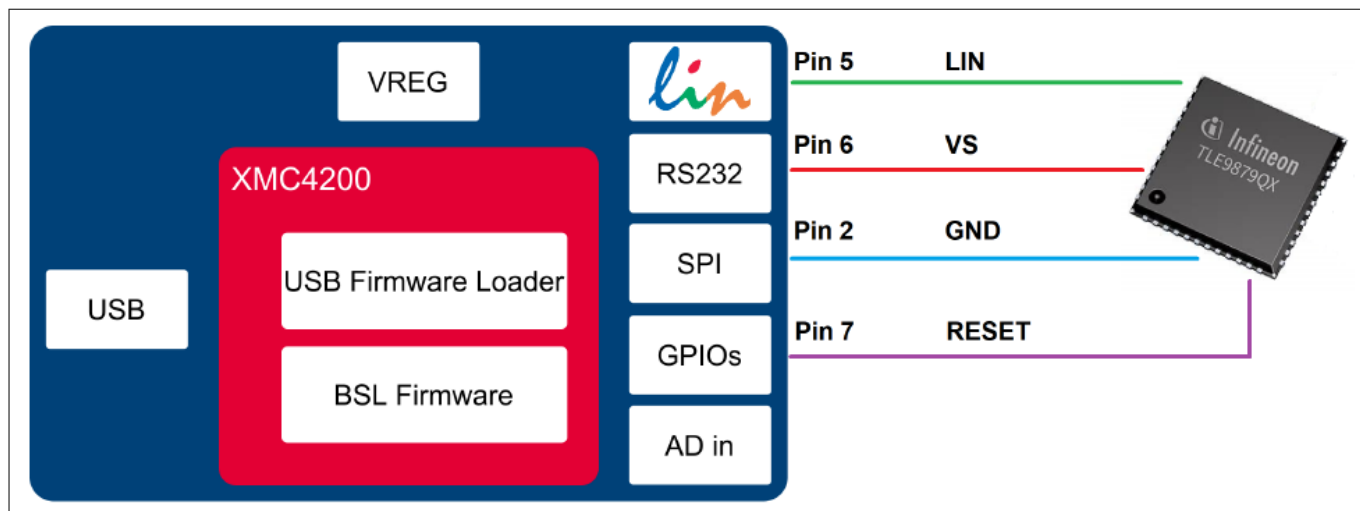

Figure 4 Normal LIN and FastLIN connection, with reset, target supplied by μIO-Stick
Figure 4 shows a connection scenario with reset. The μIO-Stick actively resets the target device in order to start BSL communication. In this case a power cycling of VS (pin 6) by the μIO-Stick is not required.
- ON - the μIO-Stick integrated charge pump is switched on, and remains on. Please see also Figure 4.